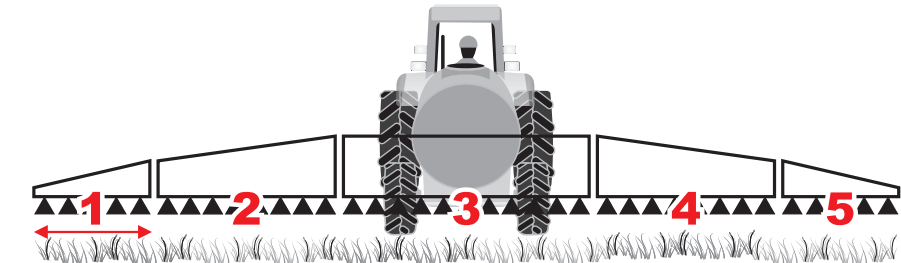

Fig. 44
- Enter the measurements of the implement sections (Fig. 44).